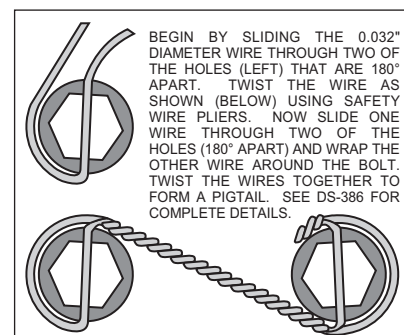

Figure 4. Safety Wire Diagram
•With the slot pointing upward and the mounting ears pointing towards the rear of the vehicle, install the caliper mounting bracket (1) to the housing flange using the stock Original Equipment Manufacturer (OEM) bolts and nuts. Stock OEM hex nuts that retain the bracket (1) should be on the wheel side of the bracket. Apply red *Loctite*® 271 to the stock OEM bolt threads and torque to OEM specifications.
**NOTE:** Some brackets act as the bearing retainers, while others help locate the bearing in the axle housing flange. If the stock bearing plates are still on the axle, the caliper mounting brackets (1) should be located between the axle housing flange and the bearing retainer plate. Make sure the heads of the caliper mounting bracket insert nuts are **FACING OUTWARD TOWARDS THE WHEEL**.
•Bolt the hat (2) to the rotor (3) using lock washers (4) and bolts (5). Torque bolts (5) to 180 **in-lb**. Safety wire bolts (5) using standard 0.032 inch diameter stainless steel safety wire as shown in Figure 4. Please refer to Wilwood's data sheet DS-386 (available at [www.wilwood.org/ds386.pdf](http://www.wilwood.org/ds386.pdf)) for complete safety wire installation instructions.
•Align the correct hole pattern in the hat (2) with the stud pattern on the axle flange. **NOTE:** Some OEM and after market axles come with stud sizes larger than 0.50" diameter. Verify stud size and have a qualified machine shop drill the hats to the correct size. Slide the hat/rotor assembly (2 and 3) over the wheel studs and against the axle flange face.
•**NOTE:** Please reference the caution statement at the beginning of the assembly instructions. **WITH THE BLEED SCREWS POINTING UP**, mount the caliper (6) over the rotor (3) and onto the caliper mounting bracket (1) using lock washers (7) and mounting bolts (8). View the rotor through the top opening of the caliper. The rotor should be aligned in the center of the caliper. If not, adjust the caliper by using 0.032 inch shim washers (9), placing them between the caliper mounting bracket (1) and the caliper (6). Apply red *Loctite*® 271 to the mounting bolt threads (8), torque bolts to 30 ft-lb. Safety wire the caliper mounting bolts (8).
•Position the Wilwood disc brake pads (10) into the caliper (6) and fasten with cotter pin (11). Steel backing plate side of brake pad should face the caliper pistons.